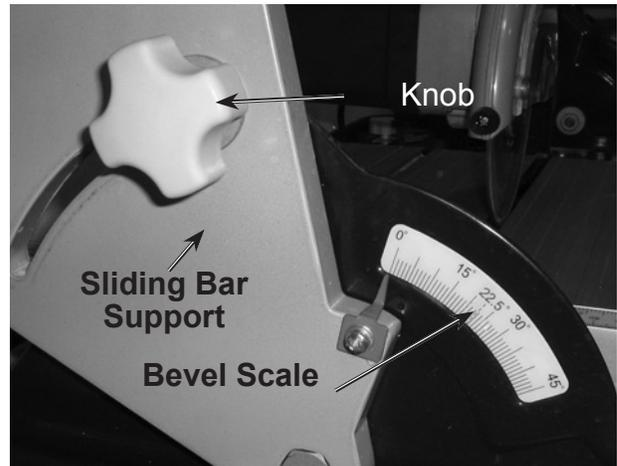

Fig. 4
6. **Beveled cuts can also be accomplished by loosening the Knobs (D27) on either side of the saw.** Tilt the Sliding Supports, and blade/motor assembly as a unit. There is a scale and indexing pointer on the Sliding Supports indicating angle of tilt. (See Fig. 4.)